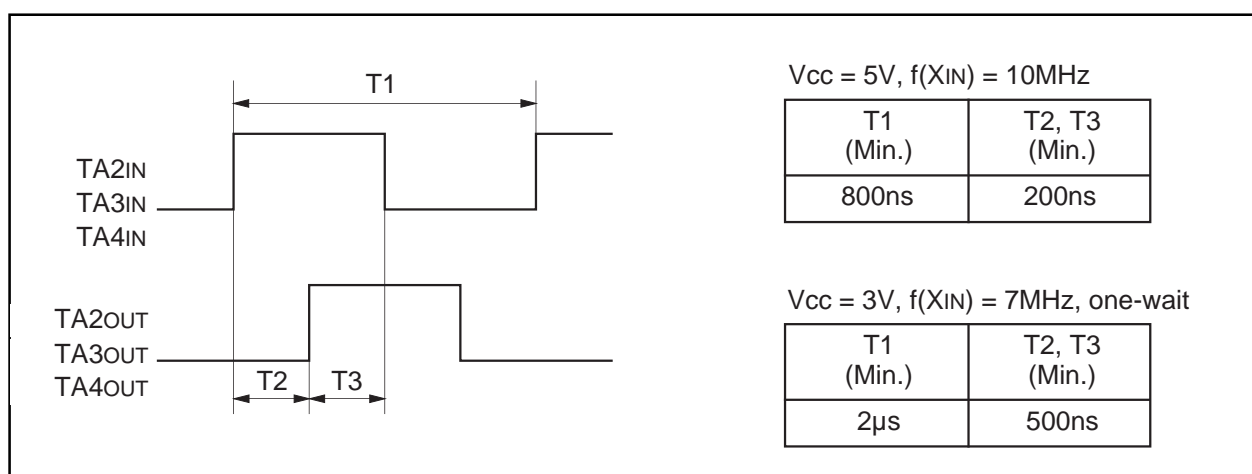

Figure 2.2.30. Standard of 2-phase pulses
- (3) Please note the standards for the differences between the 2 pulses used in the 2-phase pulse signals input signals to the TAiIN pin and TAiOUT pin (i = 2, 3, 4), as shown in Figure 2.2.30.
- (4) When free run type is selected, if count is stopped, set a value in the timer Ai register again.